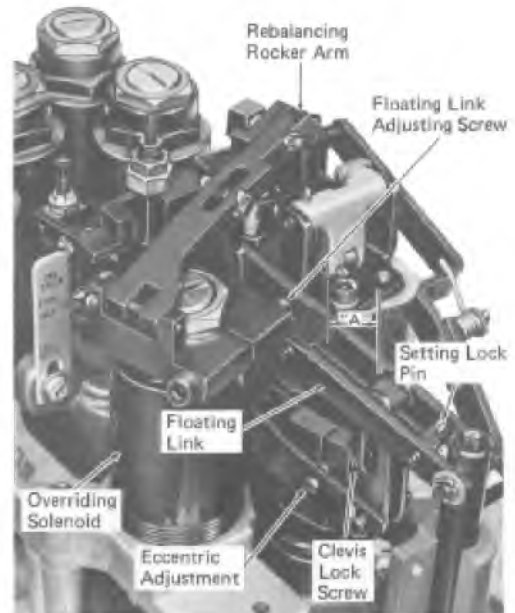

Fig. 12-13 - Pilot Valve Linkage
2. Pointer on the test stand servo indicator should be balanced at some point well away from either end of its travel with the settings as given in Step 1. If not, loosen the eccentric clevis lock-screw, Fig. 12-13, and using a screwdriver, adjust the eccentric to bring the pilot valve to the balance position. Then tighten the clevis lock-screw. The pointer of the pilot valve scale should be at "0" with pilot valve balanced. If necessary, relocate the scale to position the pointer at "0".
below the MAXIMUM FIELD START position, remove setting lock pin, Fig. 12-13, and turn floating link adjusting screw to lengthen dimension "A." If above, dimension "A" should be shortened. On this correction, adjust dimension "A" $I / 2$ required, then return to the conditions to set "0" or balance as outlined under Step I.